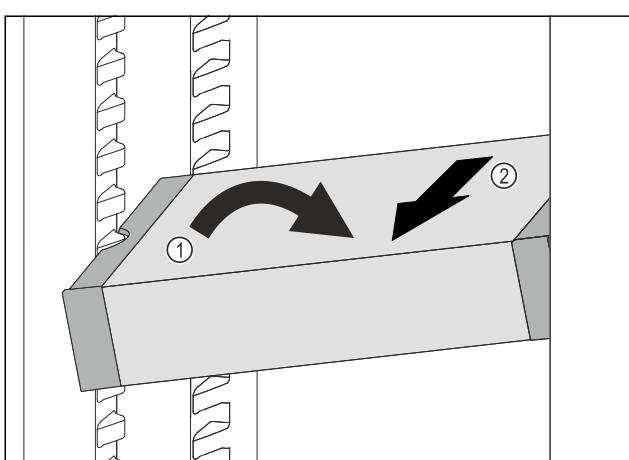

Fig. 114
► Set VarioSafe in refrigerator compartment at an angle. Fig. 114 (1)
► Take VarioSafe out to the front. Fig. 114 (2)